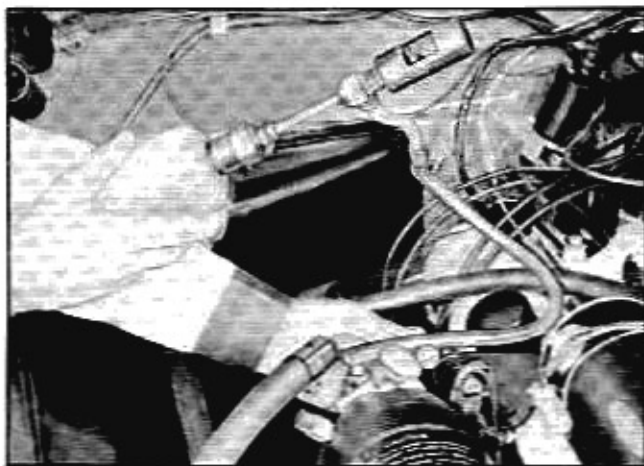

Fig. 7-27 Searching for Leaks
3. Check for refrigerant leaks (Fig. 7-27 and observe the refrigerant passing through the liquid indicator with system operating to see if there is any evidence of bubbles.